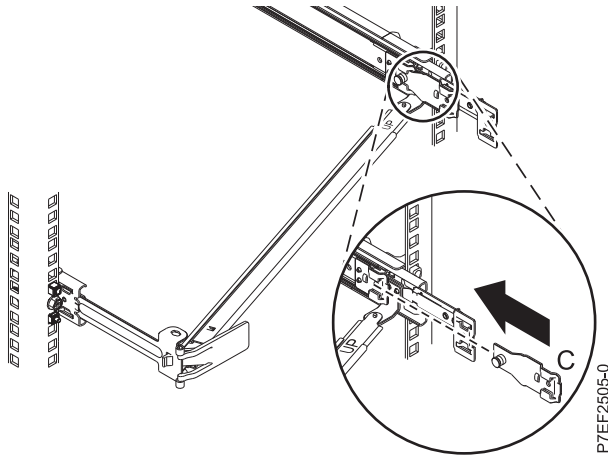

Figure 14. Installing the mounting bracket into the slide rail
- Attach the mounting bracket (C) to the slot on the inside of the right slide by sliding the mounting bracket (C) into the slide rail until the spring-loaded pin snaps into place. For details, see Figure 14 on page 11.